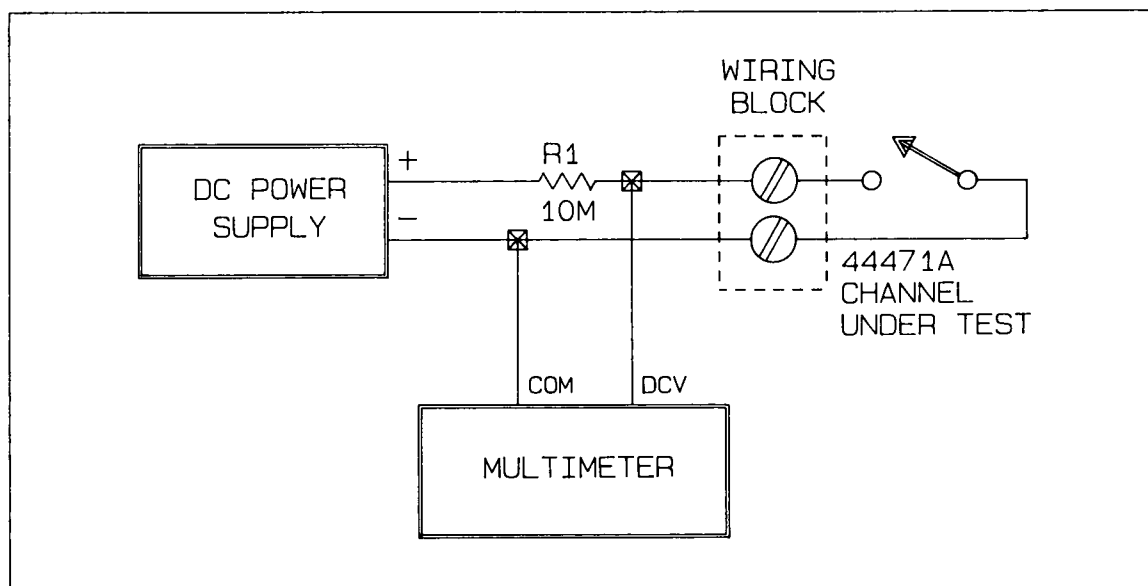

Figure 9-6 Open Channel DC Isolation Test
7. Connect the channel to be tested (channel 00 to start) into the test circuit as shown in Figure 9-6. Record the multimeter's dc voltage reading. This reading will be referred to as V3.